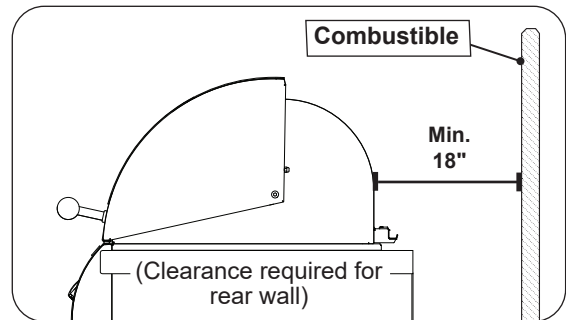

Fig. 14-3 Clearance 'C' Diagram
- The unit must have a minimum clearance of 18" from the combustible rear wall (see Fig. 14-3).